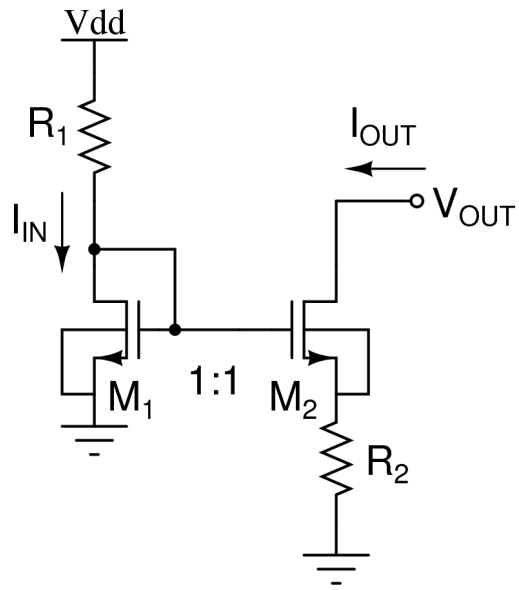

Figure 1
1. a) Derive the analytical expression for output current in the circuits shown in Figures 1 & 2.